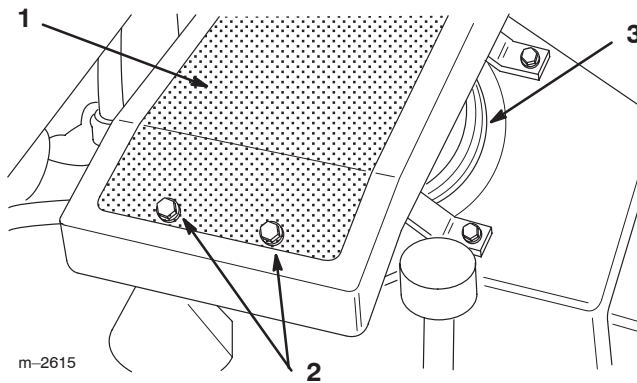

Figure 26
1. Remove oil cooler from the engine (Fig. 26). Save all mounting hardware.
2. Blow out fins of oil cooler and area between fins and screen with compressed air. If area between screen and fins is tightly packed, remove oil cooler from screen. Removing two retaining screws (Fig. 26). Save all mounting hardware.
3. Clean off engine air intake (Fig. 26).
4. Install oil cooler onto engine with previously removed hardware (Fig. 26).